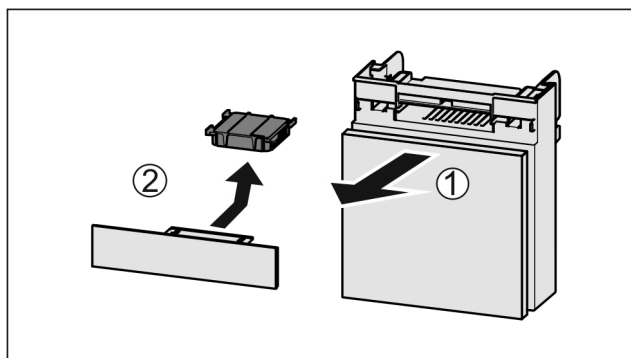

Fig. 95
- Pull out the compartment Fig. 95 (1).
- Remove the carbon filter Fig. 95 (2).